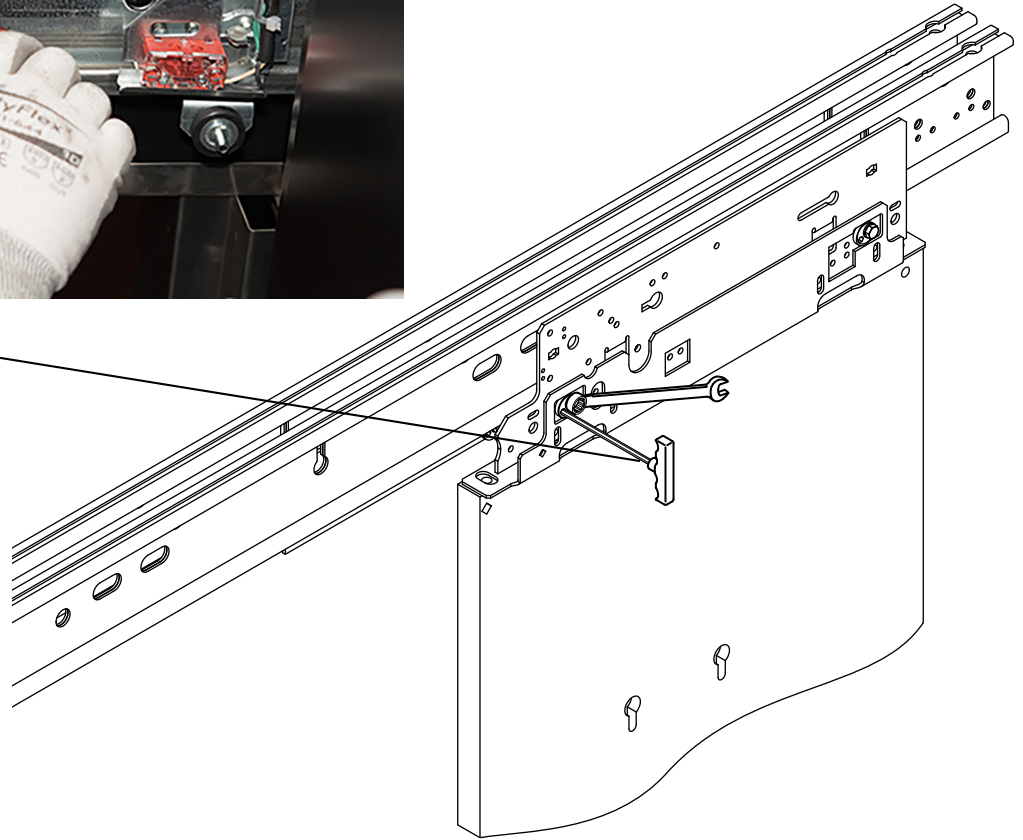

Figure 42 - Car Door Installation
8. Use a 6 mm T-handle Allen wrench to rotate the eccentrics and align the car door panel with the return. See Figure 42.